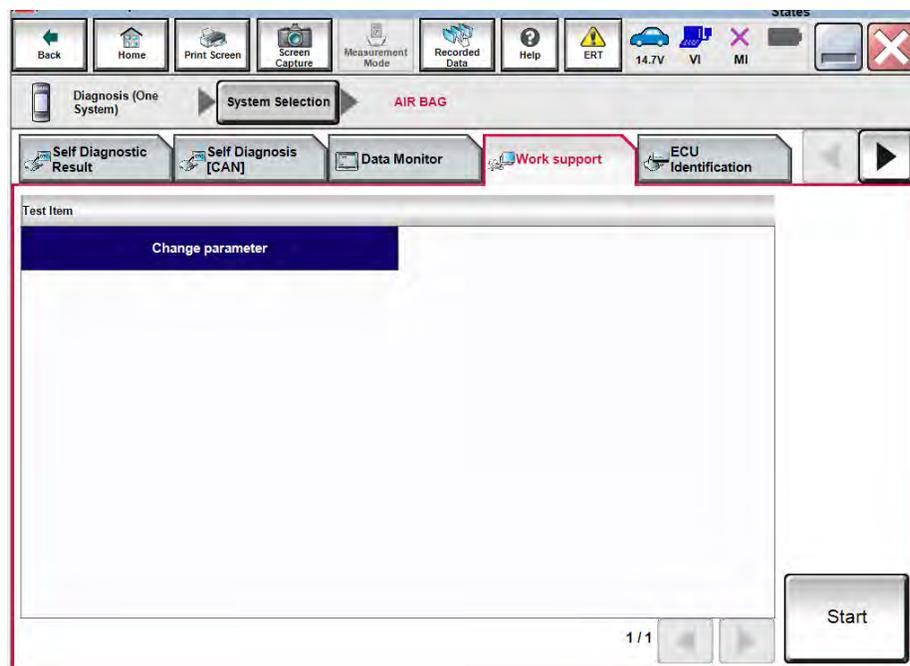

Figure 11
CAUTION: DO NOT disconnect C-III plus or the plus VI until after the screen in Figure 11 displays.
25. After selecting **End** (step 24), C-III plus will return to the screen shown in Figure 11 below.